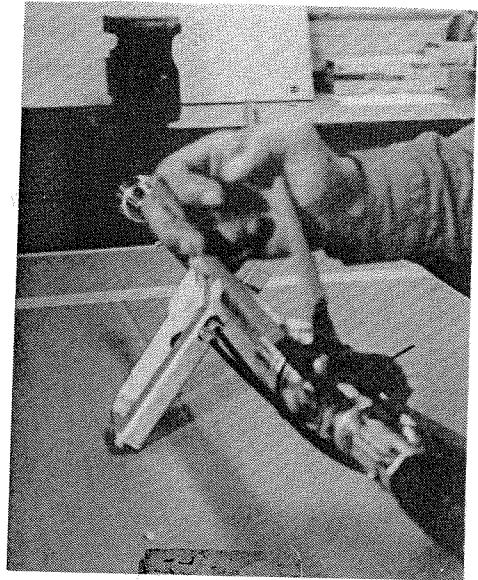

FIGURE 5-9
- A. SET THE LANCE ON A WORKBENCH AND USING A PAIR OF CHANNEL LOCKS, IF NECESSARY, UNSCREW RETAINER NUT, (#15), FROM THE SWIVEL BODY, (#1), AS SHOWN IN FIGURE 5-9.